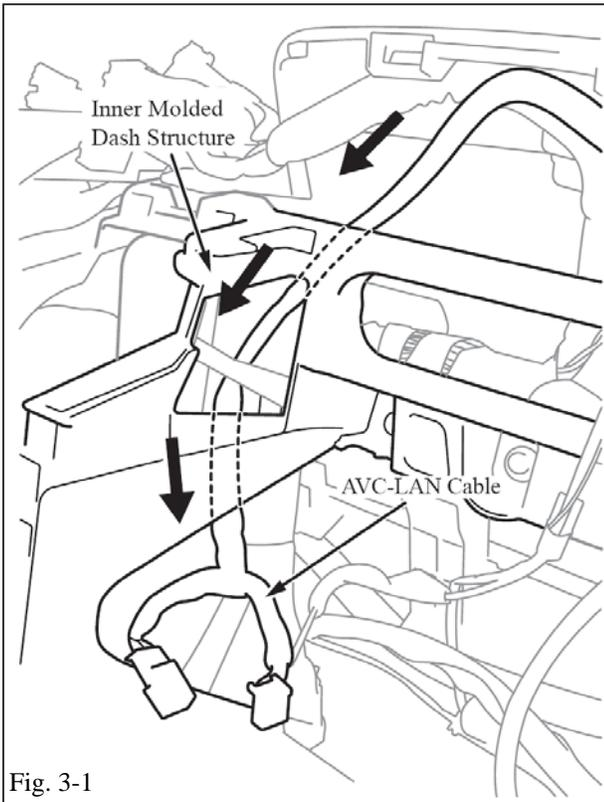

Fig. 3-1
- (c) Route the AVC-LAN cable behind the left side of inner molded dash structure at the back of the head unit. (Fig. 3-1)